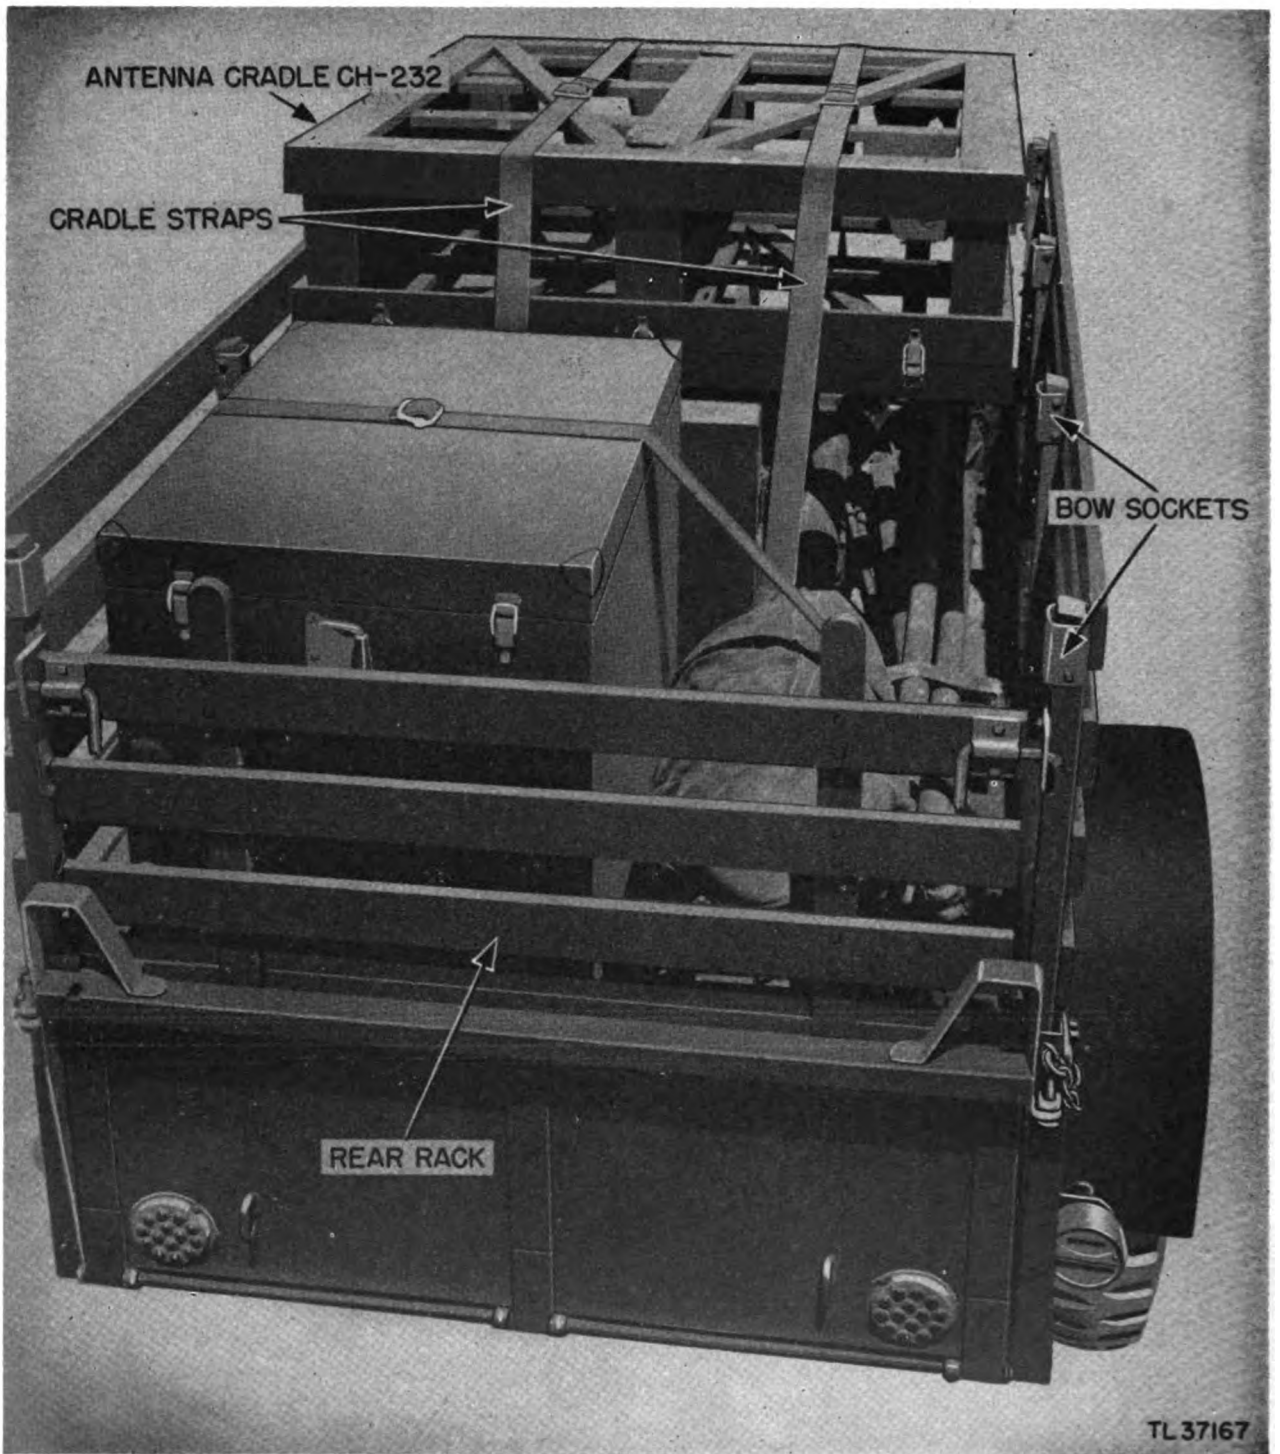

Figure 122. Antenna Cradle CH-232 in place.
s. Place antenna Cradle CH-232 on top of Chests CH-222 and CH-225. Secure in place with the four webbed straps. Two of these straps are attached to block C and two are attached to block F (fig. 122).
t. Anchor down Chest CH-224 by means of the long webbed straps fastened to blocks D and E. This strap also passes over the canvas bag (fig. 122).
u. Fasten the rear trailer rack in place with the latches and sliding bolts provided (fig. 122).
v. Close the tail gate, and lock it in place with the pins provided for this purpose (fig. 122).